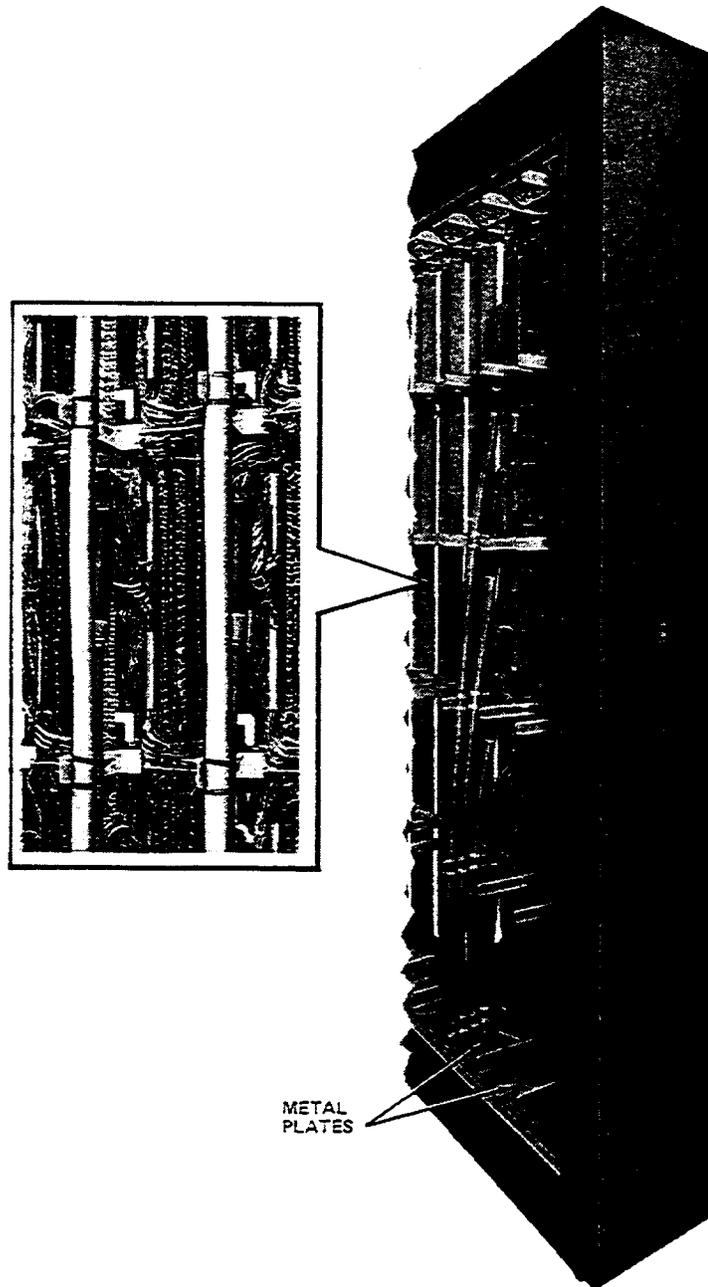

Figure 3—Position of Bottom-Mounted Stub Cables on Modular Type Protector Frame
- (1) Remove and retain the screws and metal plates from the base of the MPF to facilitate stub cable entrance to the cable entrance facility.
- (2) Mark the cable number and pair count of each stub on a linen tag or glass tape and attach to the stub cable before it is placed into the cable entrance facility.
- (3) Remove the connector from the shipping carton and route the stub cable into the cable entrance facility from the rear of the protector frame. Remove any cable twist that may be present.
- (4) From the *wiring side* of the MPF, install the connector between the vertical members of the MPF, starting at the bottom and working toward the top. It is recommended that the entire vertical be filled and the connectors be installed in the direction of growth on the frame.
- (5) From the protector unit side of the connector, secure the connector to the frame by using the screws furnished with the connector.
- (6) Position and secure the stub cable to the horns of the protector frame as shown in Figure 3.
- (7) Connect the bond wire to the same cable horn that is immediately above the aluminum covered moisture plug by using the self-tapping screw furnished with the connector. This provides electrical ground continuity between the shield of the stub cable and the MPF ground.
- (8) Cut the metal plates (Figure 3) to fit around the stub cables in accordance with local instructions and/or fire protection practices. Secure the metal plates to the protector frame using the screws removed in (1).